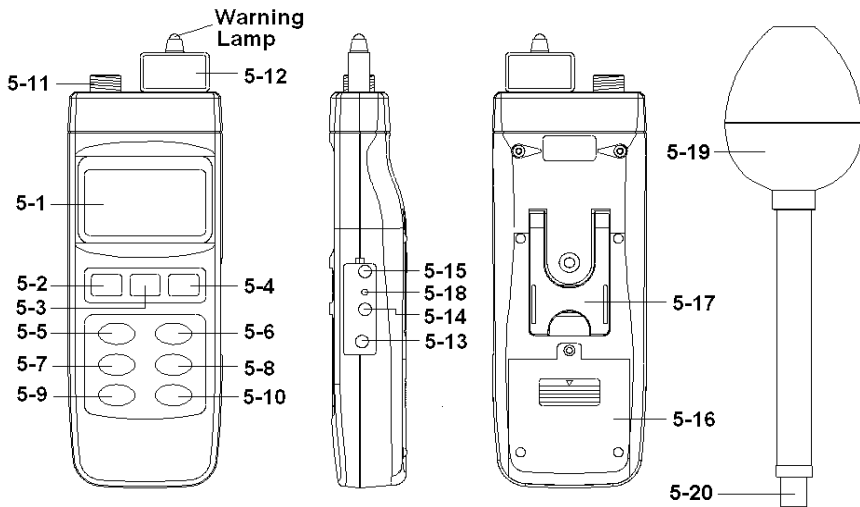

Fig. 1
2) After select convenient the probe, then plug in the exclusive " Probe Memory Card " ( 5-12, Fig. 1 ) into the front end socket of meter.
\* Make sure to use the " Frequency Team Button " ( 5-5, Fig. 1 ) to select the convenient frequency value of measuring object.
After inserting the " Probe card " ( 5-12, Fig. 1 ) and connecting probe's plug into the " Probe Input Socket " ( 5-11, Fig. 1 ), use " Unit Button " ( 5-6, Fig. 1 ) to select the " V/m, W/m2, mW/cm2 ".
1) Use the " Freq. Team Button " ( 5-5, Fig. 1 ) to select the approx. measuring object frequency value.
2) Make sure to use the " Frequency Team Button " ( 5-5, Fig. 1 ) to select the convenient frequency value of measuring object. However if you don't know the exact information, the meter will default to 1 GHz ( EP-03H probe ) or 1 MHz ( EP-04L probe ) after power on.
- 1) Power off the meter, use two fingers to press the " Alarm Button " ( 5-8, Fig. 1 ) and the " Logger Button " ( 5-10, Fig. 1 ) together continuously, then power on the meter by press the " Power Button " ( 5-2, Fig. 1 ). After power on, release all the fingers.
- 2) \* Press the " Unit Button " ( 5-6, Fig. 1 ) continuously and > 2 seconds, the bottom display will show X\_axis , then release the button, the upper display will show the EMF value of X direction.
- \* Press the " Unit Button " ( 5-6, Fig. 1 ) continuously and > 2 seconds, the bottom display will show X\_axis , then release the button, the upper display will show the EMF value of X direction.
- \* Press the " Unit Button " ( 5-6, Fig. 1 ) continuously and > 2 seconds, the bottom display will show " V/m " , then release the button, the upper display will show the total EMF value of XYZ direction ( refer page 8 ).
- 1) Press the "Alarm Button " ( 5-8, Fig. 1) once to start the alarm function, while the " units " symbol will flash on the display.
- 2) Press the " Alarm Button " ( 5-8, Fig. 1 ) once again to stop the alarm function.
- 3) Press the " Alarm Button " ( 5-8, Fig. 1 ) continuously and over 2 seconds, the "Alarm low limit value " will indicate on the lower display, use the " ▼, ▲ Buttons " to adjust the desiring low limit value.
- 4) Press the " Enter Button " ( 5-4, Fig. 1 ) will save the low limit value and going to adjust the " High limit value, procedures will similar as above.
- 5) After finish the " High limit value " adjustment, press the " Enter Button " ( 5-4, Fig. 1 ) will save the high limit value and going to adjust the alarm Hysteresis value, procedures will similar as above. Upon finish the alarm " Hysteresis value " adjustment, press the " Enter Button " ( 5-4, Fig. 1 ) will save the data.
- 6) Press the " ESC Button " ( 5-3, Fig. 1 ) to finish alarm setting procedures.
During the measurement, press the " Hold Button " ( 5-3, Fig. 1 ) once will hold the measured value & the LCD will indicate a " HOLD " symbol.
- \* The data record function records the maximum and minimum readings. Press the " REC Button " ( 5-4, Fig. 1 ) once to start the Data Record function and it will be a " REC " symbol on the display.
- a) Press the " REC Button " ( 5-4, Fig. 1 ) once, the " REC MAX " symbol along with the maximum value will appear on the display.
Press the " REC Button " ( 5-4, Fig. 1 ) once again, the " REC MIN " symbol along with the minimum value.
If intend to delete the maximum ( Minimum ) value, just press the " Hold Button " ( 5-3, Fig. 1 ) once, then the display will show the " REC " symbol only & execute the memory function continuously.
- b) To exit the memory record function, just press the " REC Button " ( 5-4, Fig. 1 ) 2 seconds continuously at least. The display will revert to the current reading.
Press the " Peak Hold Button " ( 5-7, Fig. 1 ) once to latch peak value on the display , press once again to defect.
- a) If press the Logger Button " ( 5-10, Fig. 1 ) once will show the sampling time value on the bottom left display then disappeared.
- b) Press the " REC Button " ( 5-4, Fig. 1 ) once to start the Data Record function and it will be a " REC " symbol on the display.
Press the " Logger Button " ( 5-10, Fig. 1 ) once to start the Auto Data Logger function, at the same the bottom right display will show the indicator " Recording.... ", now the Data Logger function is executed. The upper display will show " DATA " indicator along with " REC " marker.